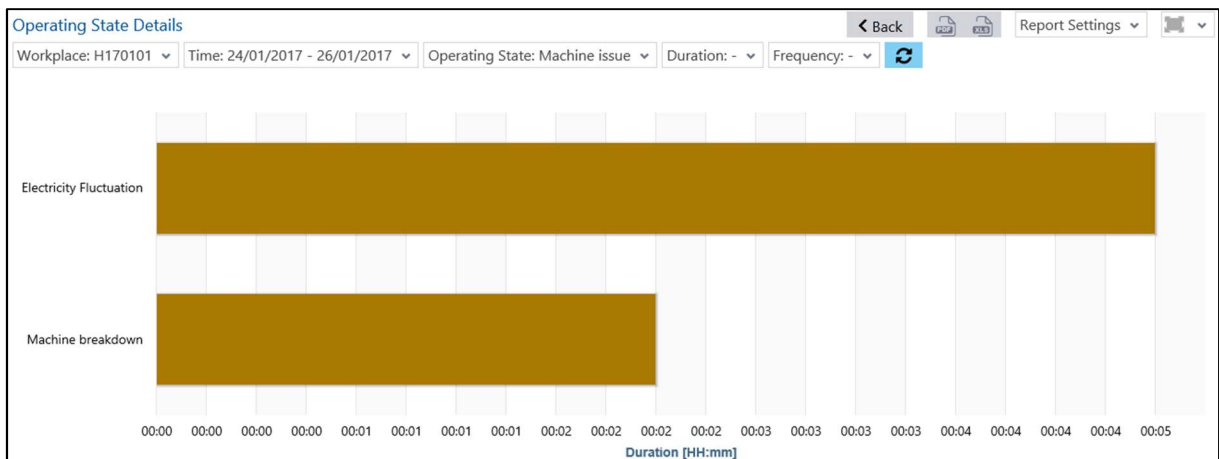

Fig. 61: Hitlist Operating States Level 2 (Workplace) as a bar chart
- Hitlist Operating States Level 2 (Workplace) as a bar chart (Fig. 61):